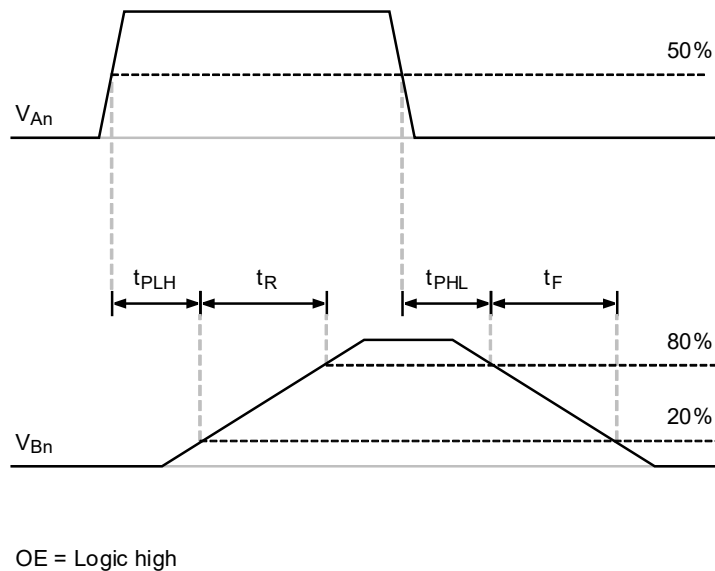

Figure 26. Turn ON and Turn OFF Timing
1. Turn ON propagation delay is measured from the time the input (An or OE) is 50% ON to the time the output (Bn) is 20% ON and rising. See Figure 26 below for measurement details.
2. Turn OFF propagation delay is measured from the time the input (An or OE) is 50% ON to the time the output (Bn) is 80% ON and falling. See Figure 26 below for measurement details.
4. Output rise time is measured from the time the output is 20% ON to the time the output is 80% ON. For sinking output devices (Si8341x), rise time is determined by load conditions. See Figure 26 below for measurement details.
5. Output fall time is measured from the time the output is 80% ON to the time the output is 20% ON. For sourcing output devices (Si8340x), fall time is determined by load conditions. See Figure 26 below for measurement details.